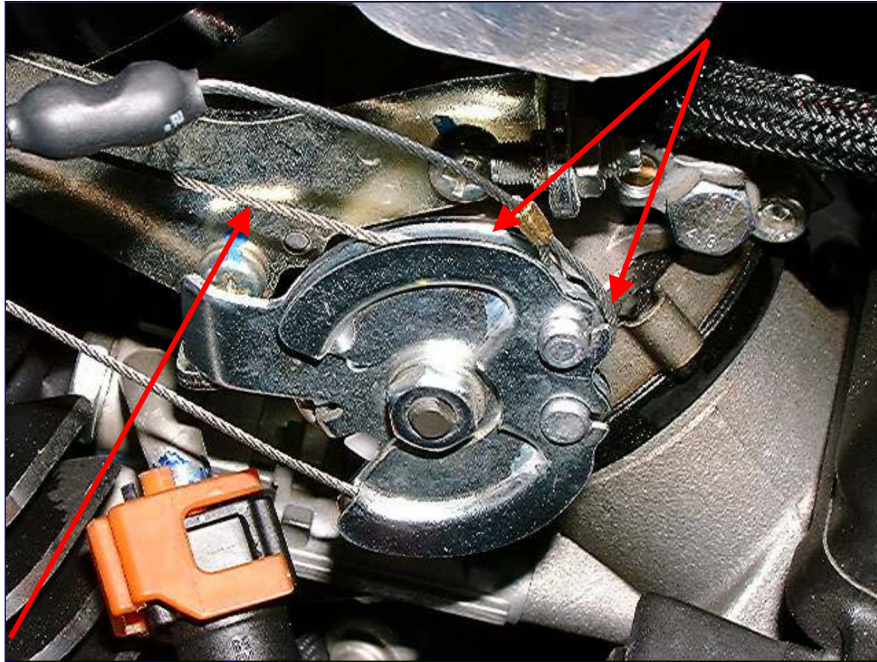

Fig.31
- Both the pull cable and the cruise throttle cable will follow the groove in the bell crank once installed.(Fig.31)